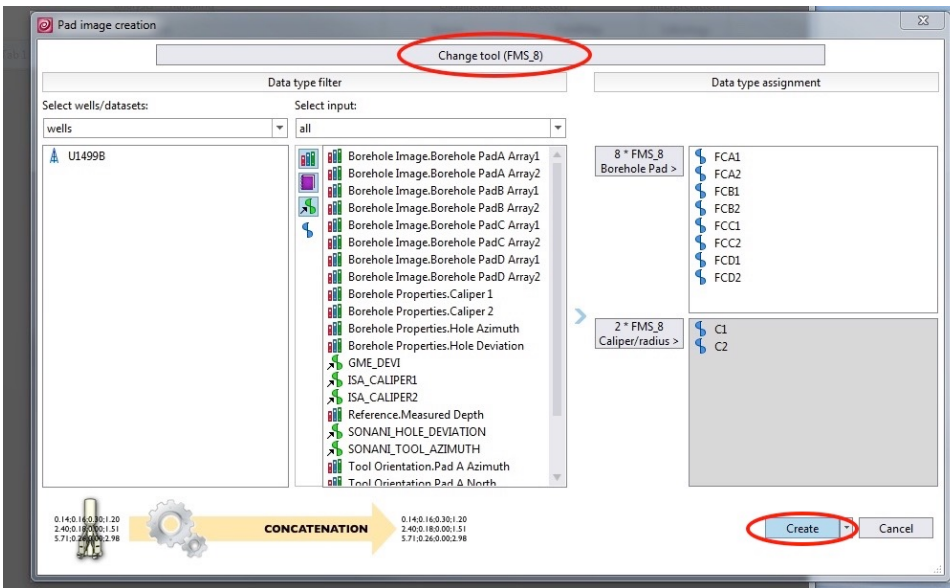

Figure 5: Pad image creation window.
2. A new window will appear (Fig. 5). Here you have to select change tool and change to FMS\_8 (The tool is actually FMS4, but the option does not exist at this step). The required variables should be automatically selected, but you may opt to manually select them to be sure that you are using the correct variables. Click "Create" to close this window and initiate the workflow in the main Techlog window.